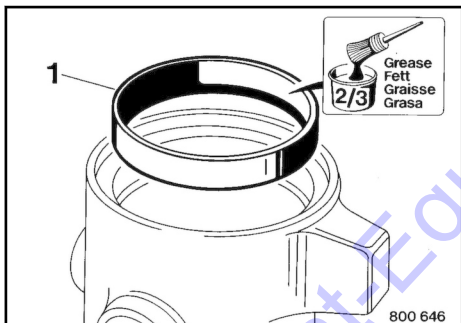

Fig. 199
4. Press outer bearing race 1 ↗ Fig. 199 into the bearing housing and fill to 2/3 with lithium saponified high pressure grease.